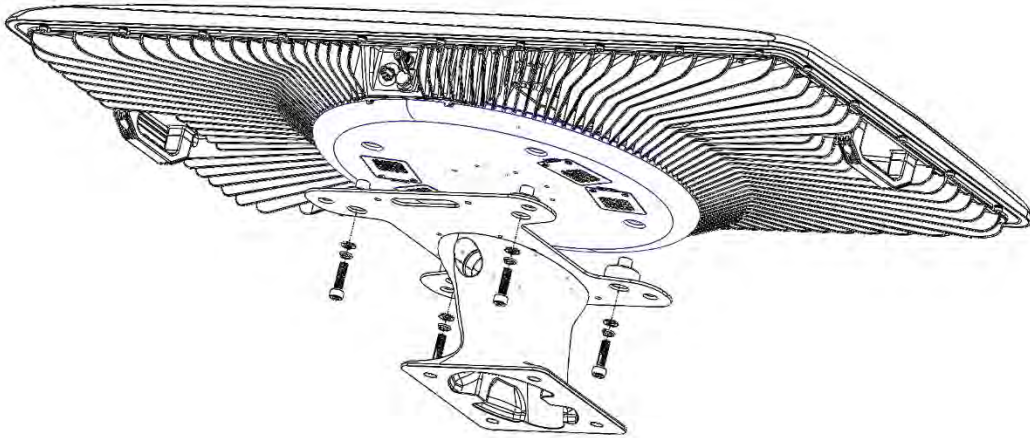

Figure 25: Attach Antenna to Plate
1. With the antenna upside down, take out the screws shown in Figure 25.